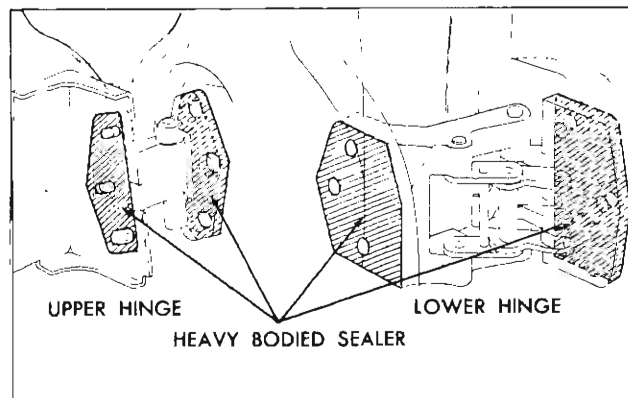

Fig. 48—Door Hinge Assemblies
2. Apply a coat of heavy-bodied sealer to attaching surfaces of hinge straps or corresponding surfaces of door or body (fig. 48).